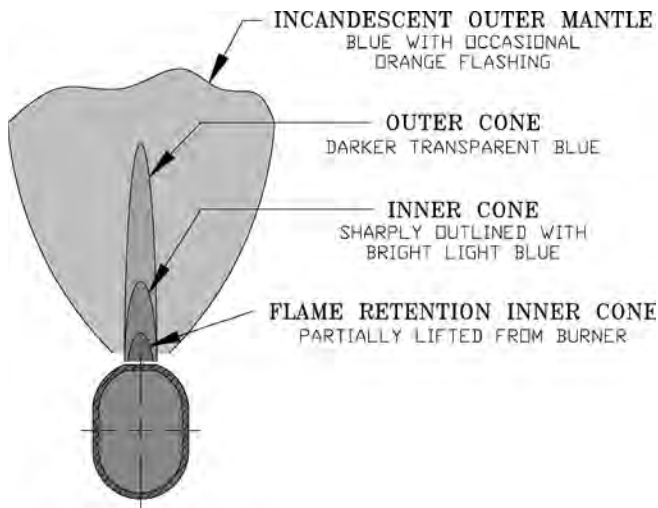

FIG. 63
- (6) Shut down the burner, and then restart. Repeat several times to be sure the low fire setting is that desired and suitable for correct burner light off.
- (7) Turn off power supply. Remove R-W jumper, and reconnect the lead to terminal R on the V9055A.
- (8) Replace the wiring compartment cover.
16. MAIN BURNER FLAMES should have a clearly defined inner cone, see Fig. 63 with no yellow tipping. Orange-yellow streak caused by dust should not be confused with true yellow tipping.
Main Burner Flames should be checked at initial start-up, annually thereafter, or after flueway cleaning, or after an extended shutdown period. Main Burner Flame should have a clearly defined inner cone, see Fig. 63, with no yellow tipping. Orange-yellow streaks caused by dust should not be confused with true yellow tipping.